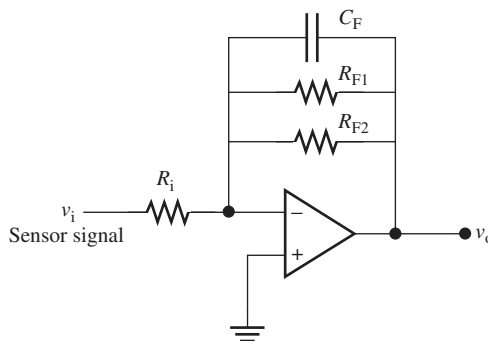

FIGURE P11.25 Low-pass, active filter.
- 11.25** (A) Consider the low-pass, active filter shown in the Figure P11.25. If $v_i(t) = 4 \cos(2000\pi t) \text{ V}$, $R_i = 10 \text{ k}\Omega$, $R_{F1} = 40 \text{ k}\Omega$, $R_{F2} = 60 \text{ k}\Omega$, and $C_F = 500 \text{ pF}$, find $v_o(t)$.